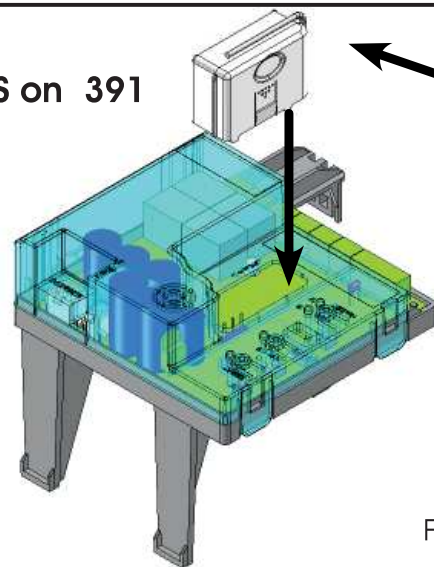

Fig. 3B
The control unit has an integrated 2-channel decoding system (DS, SLH, LC) named OMNIDEC. This system makes it possible to memory-store both total opening (OPEN A) and partial opening (OPEN B) of the automated system - this is made possible by an additional receiver module (fig.3A ref. ①) and Fig.3B ref. 1 for E024S for 391) and radio controls on the same frequency.